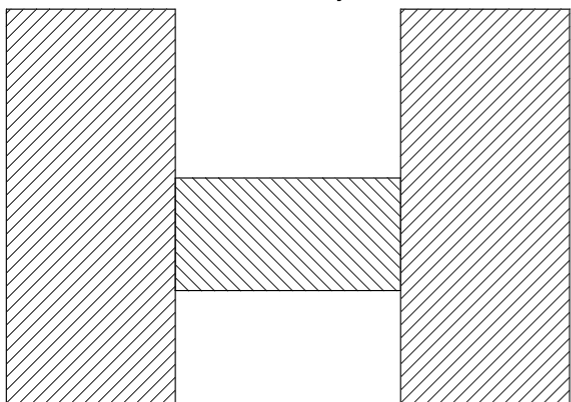

Figure 9. Stack Layer Table added to PCB Document with region legend
19. Left click to place the table below your board outline as shown in Figure 9. Notice that there is a diagram below the row listings that provides the legend for each region of the board. In the last 3 columns, the patterns referenced in the legend are used to show which layers exist in the 3 regions of the design.